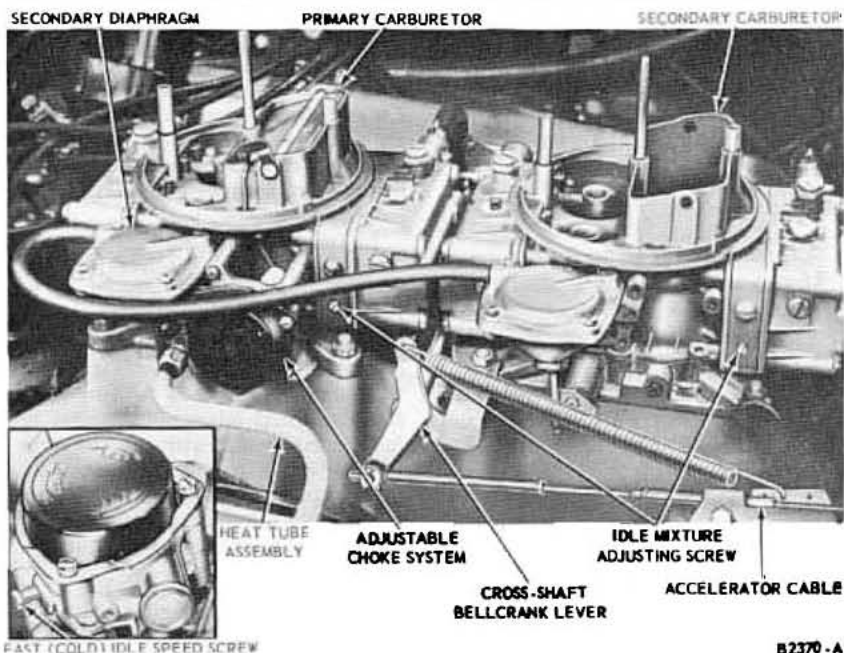

Fig. 24—Holley Dual 4-V Carburetors—Left Side View
2. Turn the idle (hot engine) speed screw outward on each carburetor until the throttle plates close tight in the throttle bores. It may be necessary to back the front carburetor fast (cold engine) idle adjusting screw (Fig. 24) to close the plates tight in the bores. Set the idle speed adjustment screws to just make contact with the stops on the carburetor bodies and turn them inward the specified turns.
On the Holley carburetor installation, the fast (cold engine) idle speed adjustment is performed on the front (primary) carburetor only. The fast idle speed screw is located on the left side of the front carburetor (Fig. 24).
The secondary throttles are vacuum operated and are inter-connected by a rubber hose, located between the two secondary diaphragm vacuum operating chambers (Fig. 24), to assure synchronous action of the secondary throttle plates (no adjustment is required).